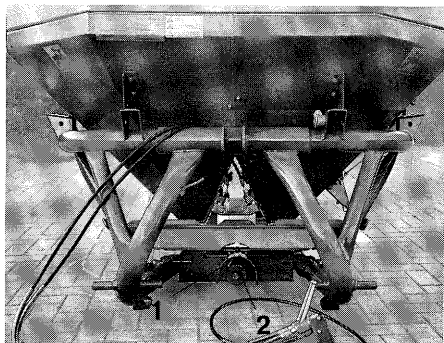

Fig. 10.12
- Unbolt from gearbox neck the metal universal joint guard (fig. 10.12/1).
- Pull flange (Fig. 10.12/2) from the input shaft.